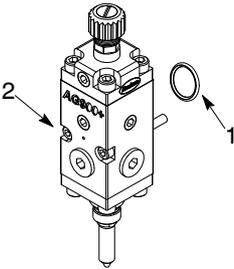

Figure 24: Applicator Body
1. See Figure 24. Place a small amount of o-ring lubricant on new o-ring and install o-ring in groove on back of module body.